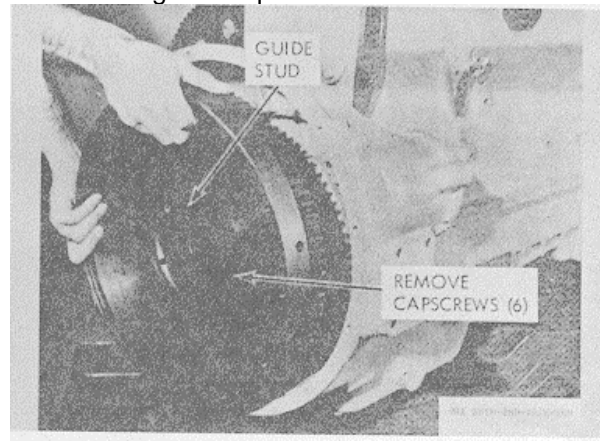

Figure 3-163. Flywheel removal.
(3) Remove remaining capscrews and washers and pull flywheel from crankshaft, figure 3-163.